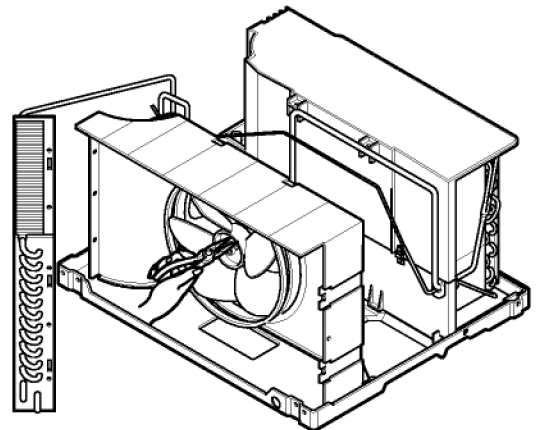

Figure 7
8. Re-install by referring to the removed procedure, above. (See figure 7)